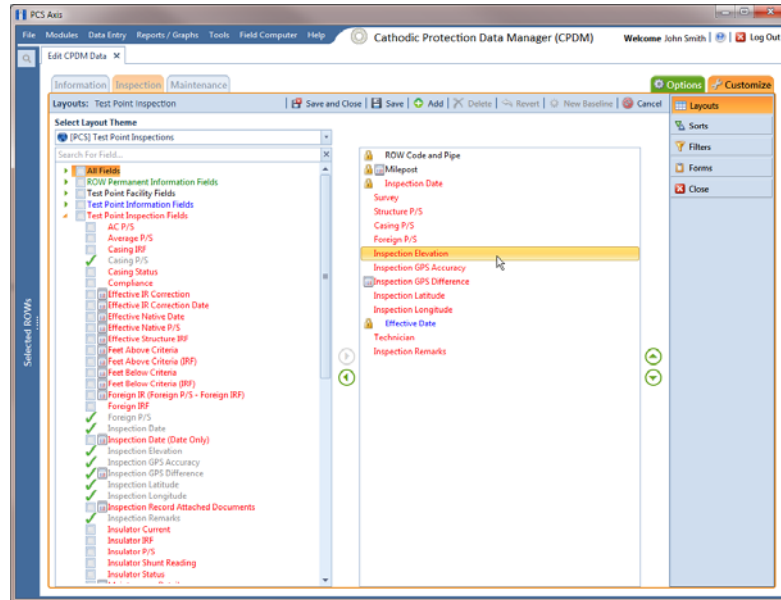

Figure 8-28. Layouts
- 3 Click the **Customize** tab  to view the *Layouts* page (Figure 8-28, page 379).